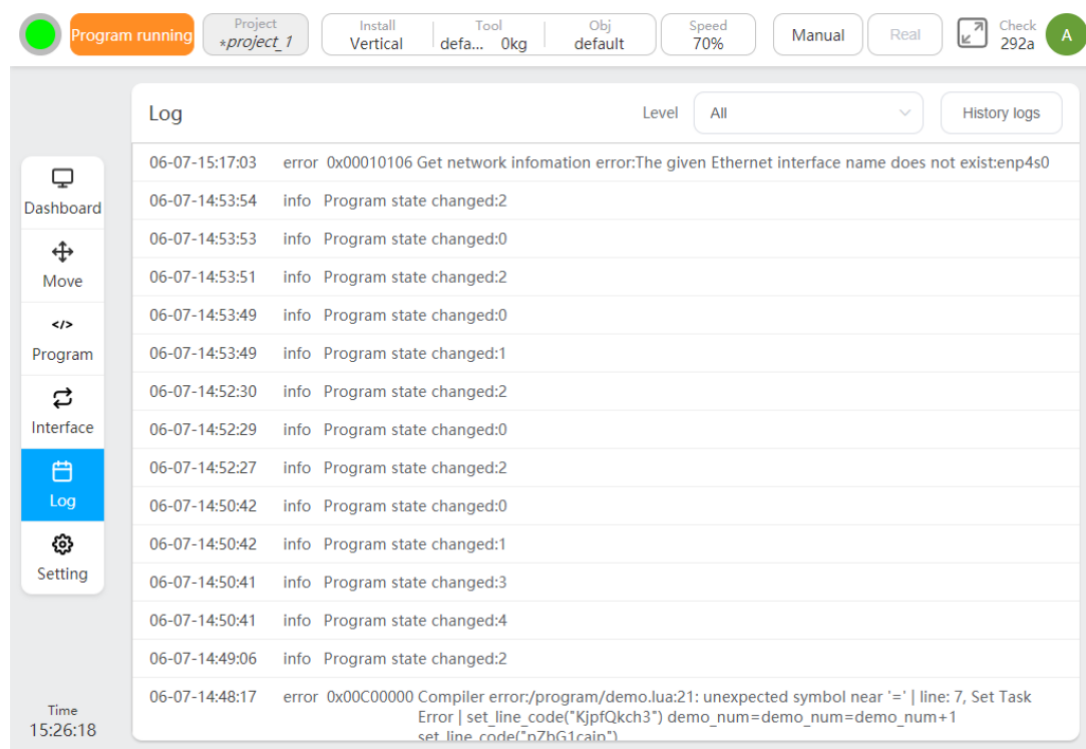

Figure 1 Error information reported on each axis
When a fault occurs, the controller of the robot arm will automatically query the internal fault word of each axis (provided that the robot arm is not powered off), and the detailed servo error information can be queried by exporting the log information, as shown in Figure 1.
Taking Axis1 as an example (refer to 11 in Figure 1): The historical maximum code loss since the last cleanup or power-on is explained as follows:
Taking Axis1 as an example (refer to Figure 1 12): ABS fault code, meaning all the fault bits that have occurred since power-on, and detailed alarm information and examples are shown in the following figure.
Taking Axis1 as an example (refer to 13 in Figure 1): The current loop saturation time (within 100us) that occurs continuously before the servo fault alarm.
1) High 4 bits of information: taking Axis1 as an example (refer to 14 in Figure 1);
2) Low 4 bits of information: taking Axis1 as an example (refer to 15 in Figure 1);
Taking Axis1 as an example (refer to 16 in Figure 1): The number of consecutive frames (up to 4) that have been lost since power-on.